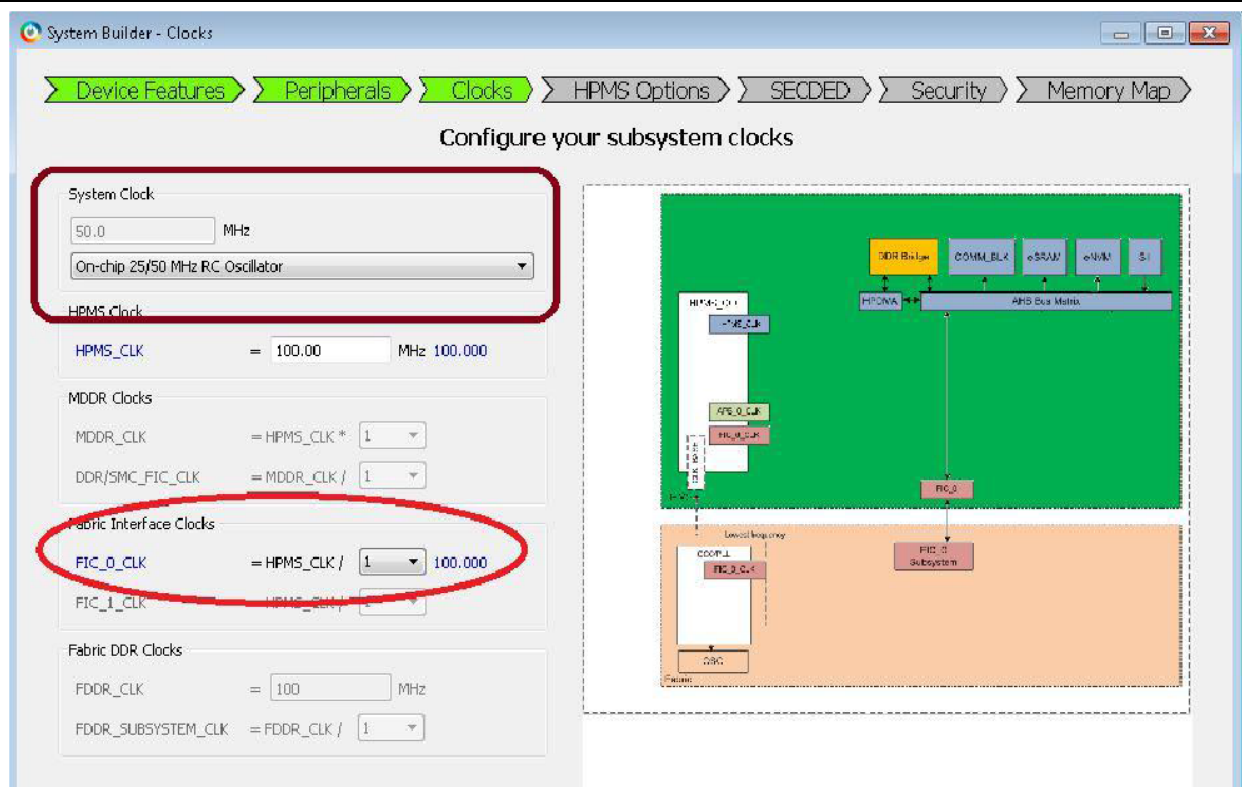

Figure 7 System Builder – Clocks
- Click **Next**. This opens the System Builder – Clocks tab, select **On-chip 25/50 Mhz RC Oscillator** as the System clock and **FIC_0_CLK = HPMS/1= 100Mhz**, as shown in Figure 7.